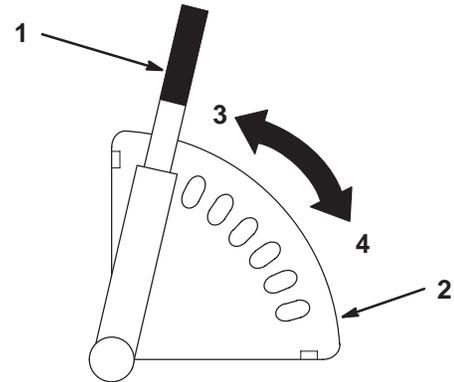

Figure 14
4. Adjust the height of cut to the desired level. Release the lever inward to lock into the quadrant (Fig. 14).